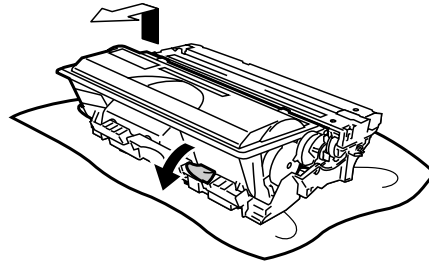

Fig. 5-2
- (3) While pressing the Blue lock lever, pull the toner cartridge out of the drum unit assembly. (Fig.5-2)